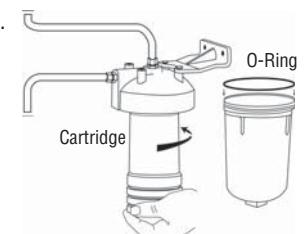

Figure 11
11. Install cartridge by threading into head about 5-6 revolutions. Do not overtighten. Lubricate O-ring with a thin film of a silicone based lubricant and put it back in housing groove. Thread the housing back on the head and hand tighten. Using of wrench to tighten the housing may damage housing and result in water leakage. (Figure 11)